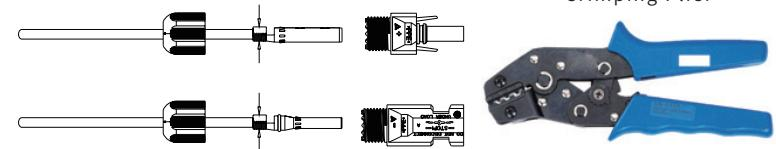

Figure 4-19
- ④ Insert the DC cable through the DC connector nut into the metal terminal and press the terminal with a professional crimping plier (pull back the cable with some power to check if it's tight enough), as shown in Figure 4-19: